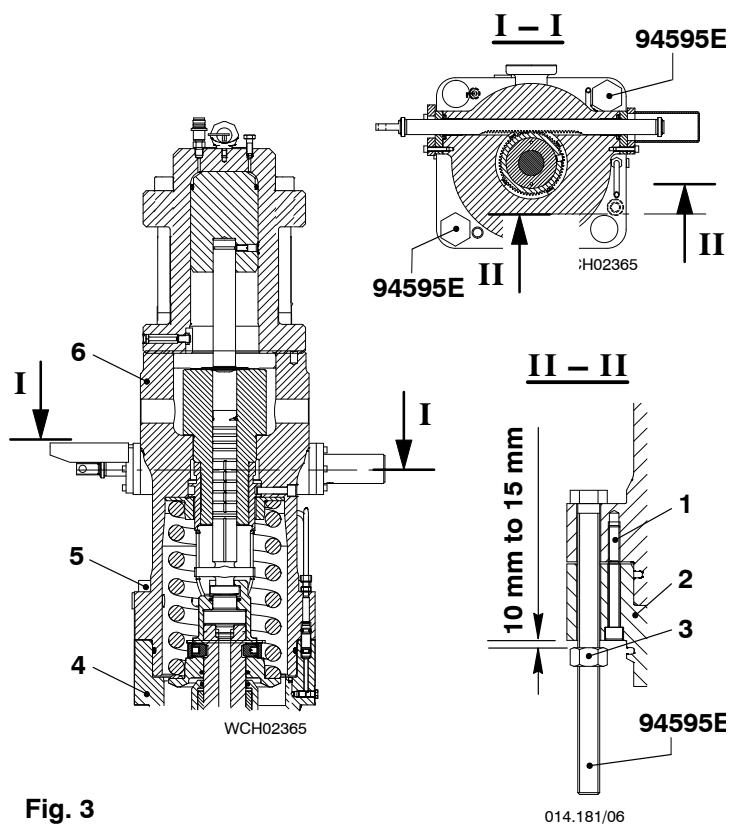
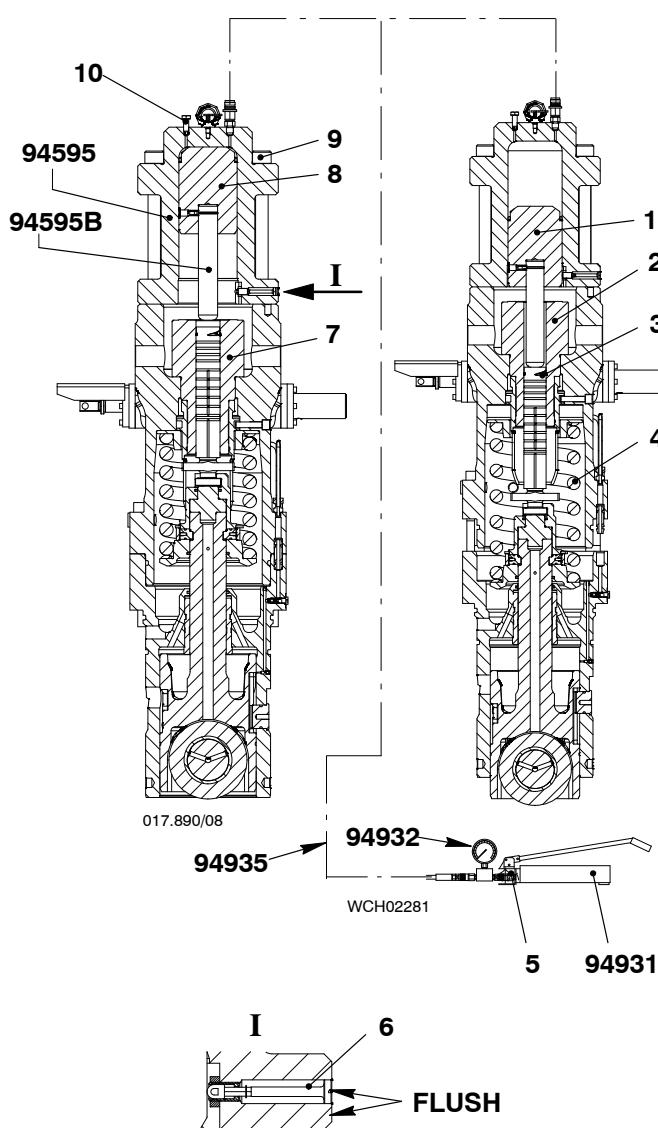

Fig. 3
Fig. 4
- 1) Attach the hydraulic ram (94595) to the fuel pump with the twelve screws (1).
- 2) Hold the bottom housing (4, Fig. 3) in position, then remove the four bolts (5) from the top housing (6).
- 4) Put the nuts (3) on the screws (94595E).
- 5) Adjust the nuts (3) to get a minimum clearance of between 10 mm to 15 mm (view II-II).
- 6) Remove the two screws (1).
- 1) Connect the hydraulic ram (94595, Fig. 4) to the HP oil pump (94931).
- 2) Close the relief valve (5).
- 3) Make sure that the vent screw (10) is open.
- 4) Operate the HP oil pump until oil that has no air flows from the vent screw (10).
- 5) Close the vent screw (10).
Note: During the step below, make sure that you keep a clearance of between 10 mm and 15 mm between the nuts (3, Fig. 3 II-II) and the bottom housing (4).
- The compression spring (4) pushes the plunger (2) out of the cylinder (7), or
- The indicator (6) is flush with the housing. (This shows that the piston is at the end of its stroke.)
- 7) Open the relief valve (5) to release the pressure in the HP oil line.
- 9) Remove the screws (9).
- 12) Move the piston (8) to the initial position, see paragraph 2.
- 5) Close the relief valve (4).
- 6) Open the vent screw (8).
- 7) Operate the HP oil pump until oil that has no air flows from the vent screw (8).
- 8) Close the vent screw (8).
Note: During the step below, make sure that you keep a clearance of between 10 mm and 15 mm between the nuts (3, Fig. 3 view II-II) and the bottom housing (4).